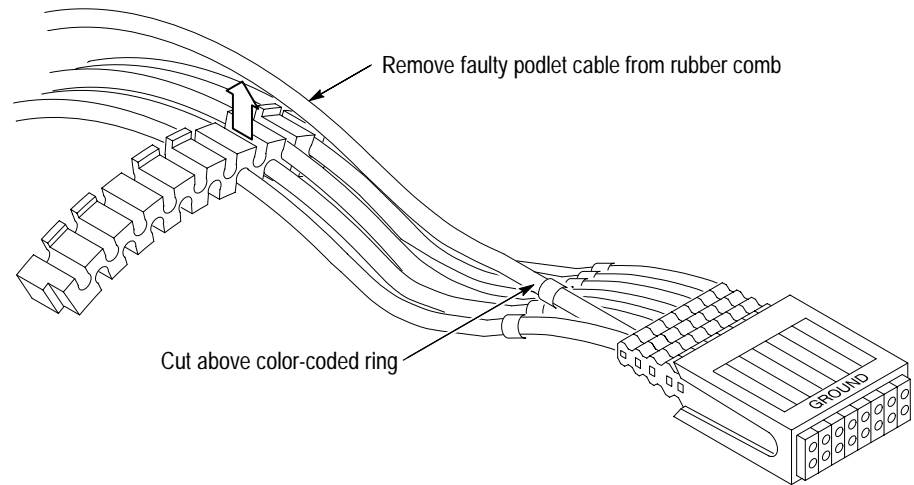

Figure 12: Removing a podlet cable from the rubber comb
11. Refer to Figure 12 and bend the rubber comb to remove the faulty podlet cable from the comb.